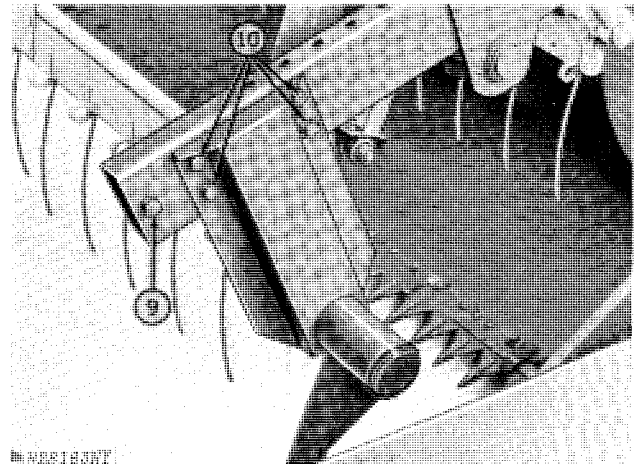

Fig. 71-Attaching Outrigger
9. Insert outrigger mounting plate in reel arm and secure to reel arm with one 3/8 x 1-inch cap screw and lock washer (Fig. 71). Do not tighten cap screw at this time.
10. Attach outrigger assembly to reel arm with four 3/8 x 1-inch cap screws and lock washers (Fig. 71). Tighten these four cap screws to 30 ft-lbs torque. Tighten cap screw installed in Step 9.